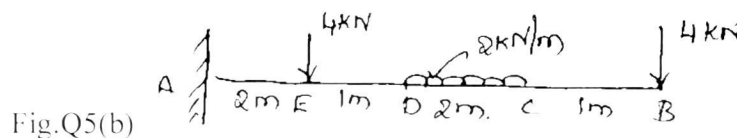

Fig.Q5(b)
b. Draw SFD and BMD for the cantilever beam shown in Fig.Q5(b). (08 Marks)